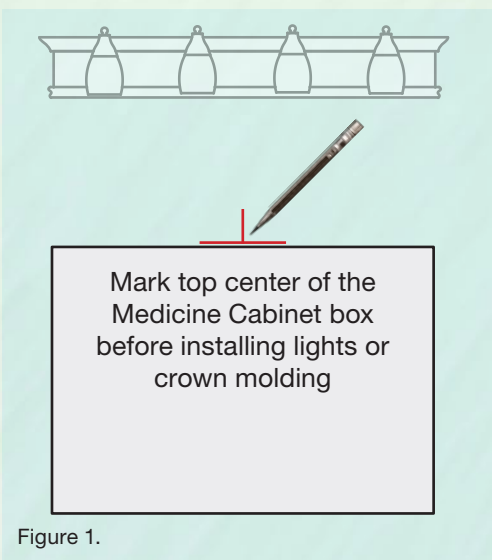

Figure 1.
1. Determine the desired location of the Medicine Cabinet box (before lights or crown molding are installed) and mark the wall, with a pencil, at top center of the Cabinet box. See Figure 1.